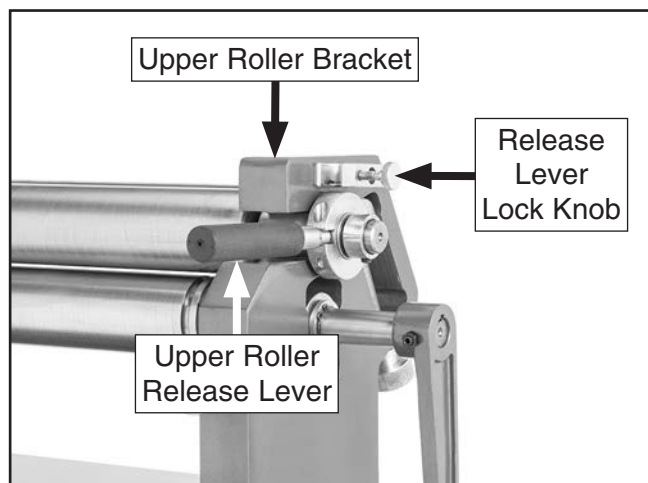

Figure 55. Upper roller release lever pulled down.
19. Rotate release lever lock knob counterclockwise until upper roller release lever can be pulled down, and flat edges of upper roller bracket are parallel with slots in frame (see **Figure 55**).